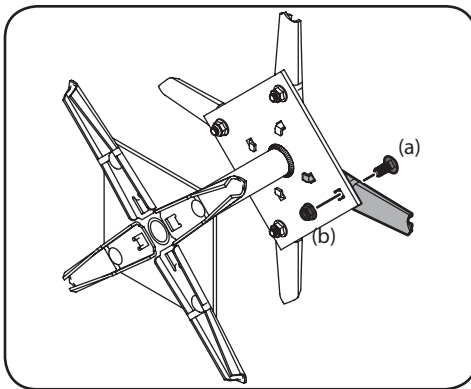

Figure 5-2
2. Remove the carriage screw (a) and nut (b). See Figure 5-2.